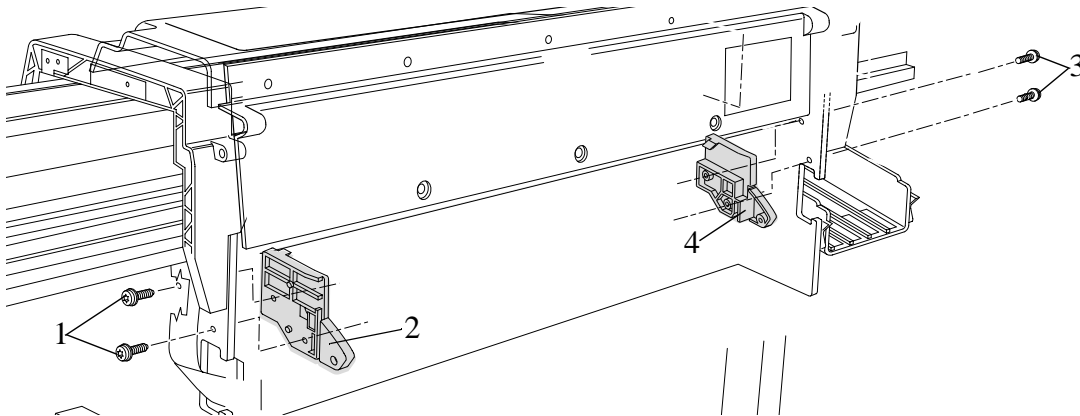
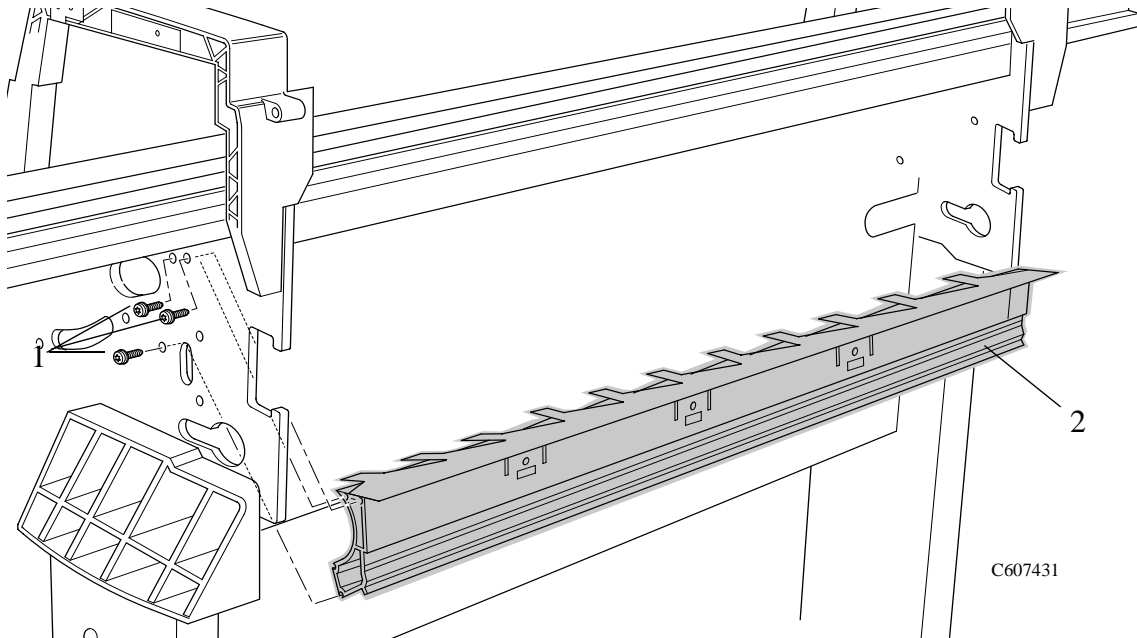

Figure 72: Platen Mounts
Figure 75: Roller Guide
Refer to Figure 72 to Figure 75.
2. Remove the two T-15 screws (item 1) securing the left hand rear platen mount (item 2) (refer to Figure 72)
3. Remove the two T-15 screws (item 3) securing the right hand rear platen mount (item 4) (refer to Figure 72).
NOTE For the following steps refer to **Figure 75**.